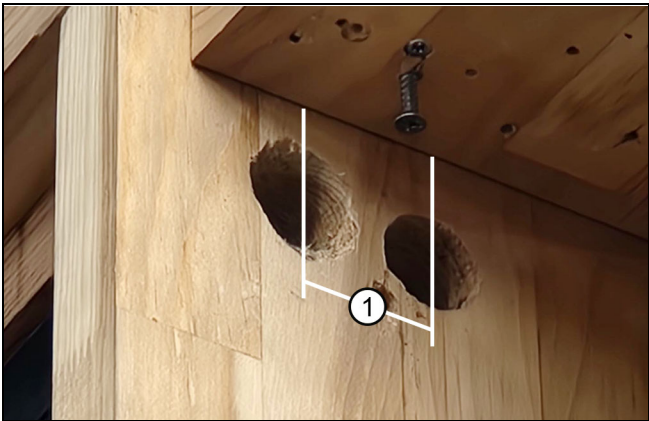

Figure 1
1. Option A: Drill into the stud adjacent to the interior most track of the door with a 1 1/4" hole saw. See Figure 1.